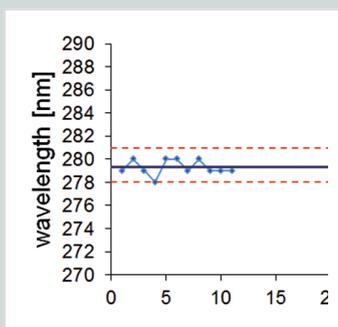

Figure 7: Control chart F1 Excel file: Tab “F1 charts” shows data over time as an example
- b) F1 charts: This tab offers a graphic overview about the measured values as well as the limits and can be used to monitor calibration values over time (Figure 7).